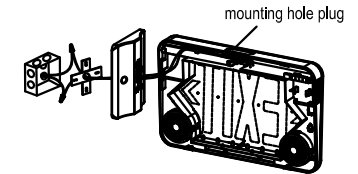
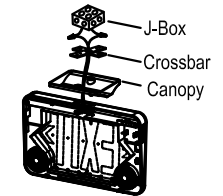

Fig 4
Fig 5
Side or Ceiling Mounting (see Fig 4, Fig 5)
4. Remove mounting hole plug on the top or side of the fixture and assemble the canopy (see Figs 4 & 6).